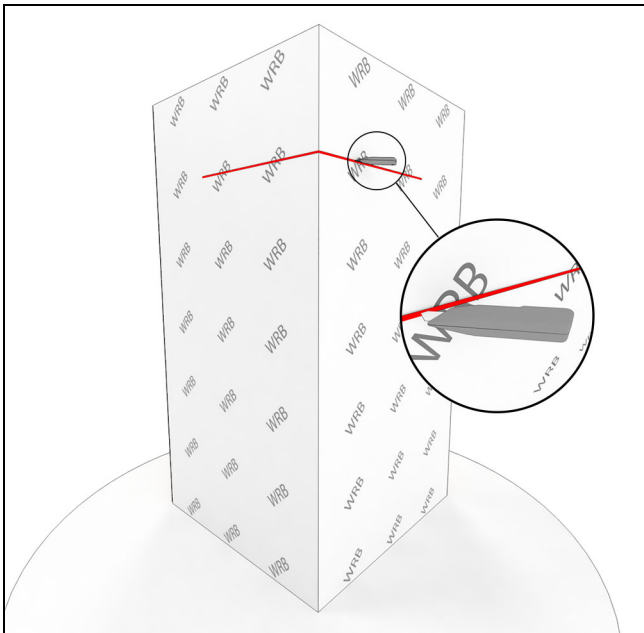

Figure 3
2. Apply air barrier. Trim the air barrier across the entire top of the head jamb. See Figure 3.